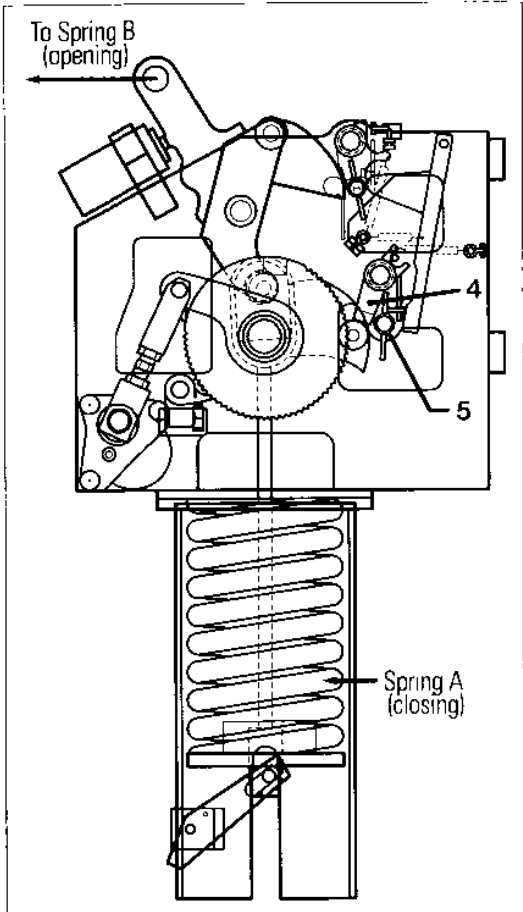

Fig. 2 Spring charged breaker open
Fig. 2 shows the mechanism with Spring A charged and the breaker in the open position. The close latch (4) supports the closing spring's stored energy. To close the breaker, the close release latch (5) is rotated, releasing the close latch and allowing Spring A to discharge.
When the opening Spring B discharges, the breaker opens and is in the position shown in Fig. 2.